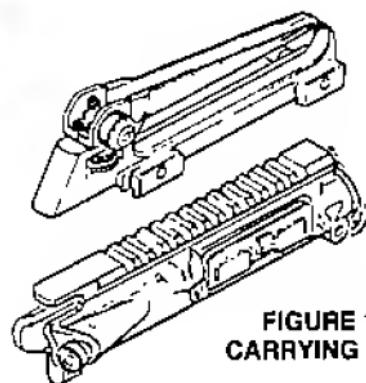

FIGURE 14 --
Clean and lubricate (as described on page 47 items 11, 12 and 13.) When the carrying handle is off the rifle, lightly lubricate the two securing screw threads and make sure the flat top of the rifle is clean and free from damage. (See Figure 14.)